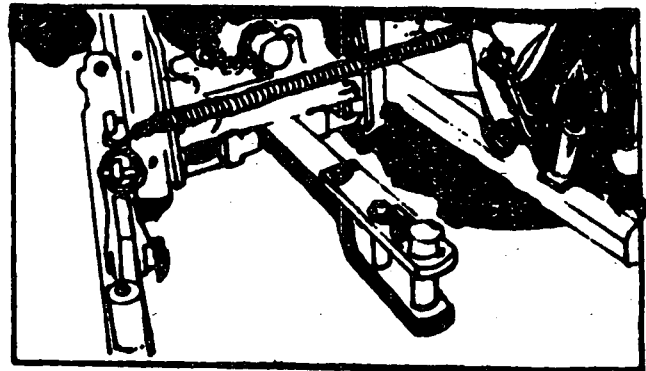

Fig. 2 Drawbar with clevis. See the clamping bolt.
For this purpose a sturdy coupling pin or bolt is used (Fig. 2).
- to provide such a coupling of the implement that it will keep it from swinging (Fig. 2).